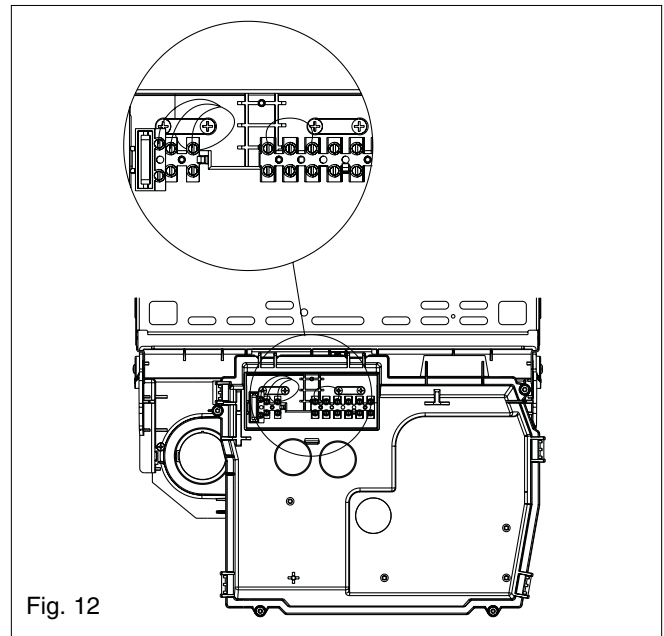

Fig. 12
4.7.3 CONNECTING THE MAINS (230V) INPUT (see fig. 12)